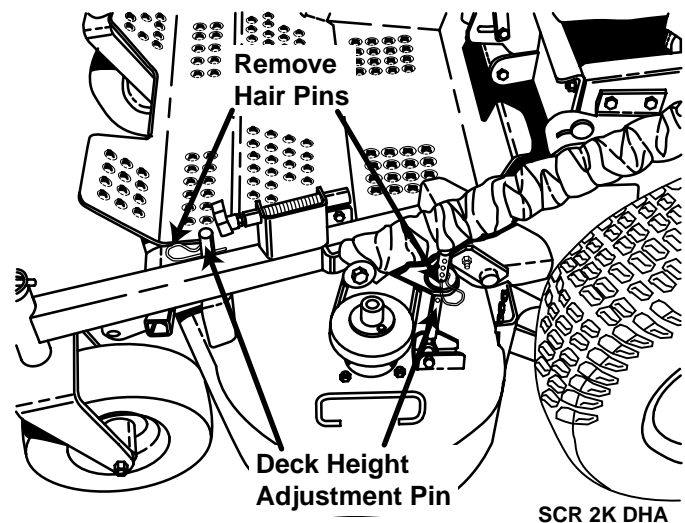

Figure 4-14 Deck Height Adjustment
2. Remove the two hairpins from the adjusting pins on one side of the cutter deck (Figure 4-14).